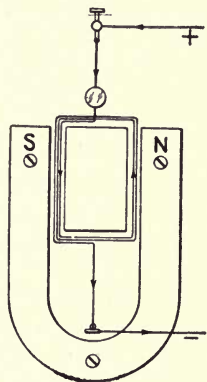

FIG. 79.—D'Arsonval Galvanometer.
**212. Galvanometer.**—One of the instruments used to measure electricity is called a galvanometer. It depends for its usefulness on the principle of magnetism. There are many varieties of this device. The D'Arsonval galvanometer (Fig. 79) consists of a horseshoe magnet placed vertically. Between the poles of the magnet there is an iron cylinder; above the cylinder is suspended a fine wire wound on a thin copper frame so that it will swing freely between